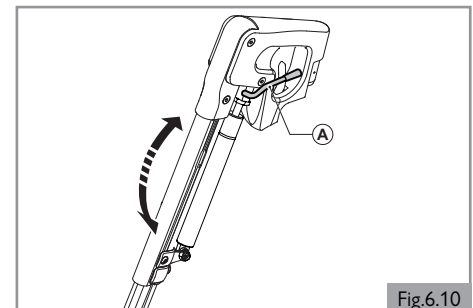

Fig.6.10
6.5 Manually elevating leg rests knee angle (Fig. 6.10)